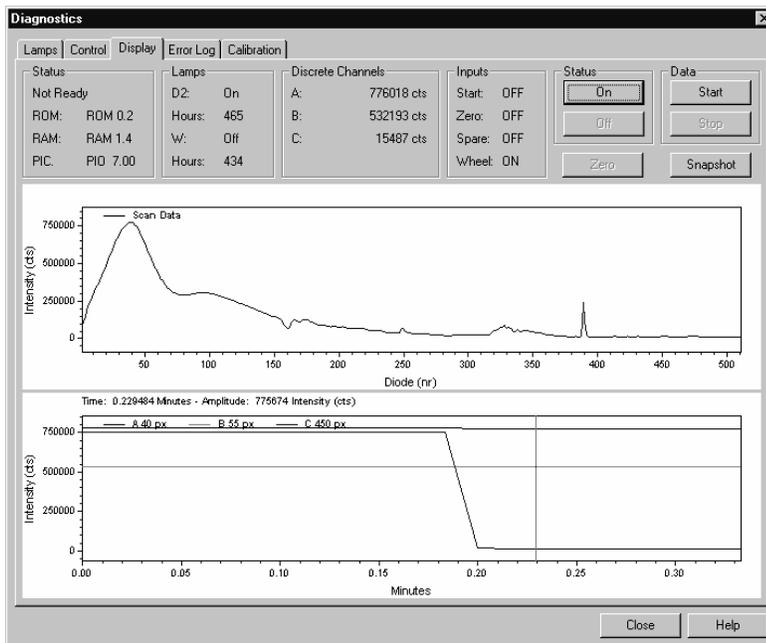

Figure 4.2 Intensity Scan with D₂ Lamp
11. Turn the tungsten - halogen (W) lamp off.
13. Go to the Display page and once again click on the Status-On and Data-Start buttons. See Figure 4.2. Use the Print Screen key to print out a copy of the intensity scan. This scan can be kept to compare with future scans to see if there is any intensity degradation. Date the printout and add it to your maintenance records.